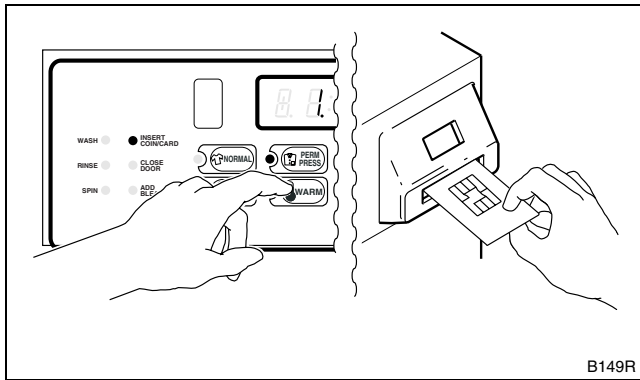

Figure 13
7. **For machines equipped with a cardreader:** Insert card into cardreader and follow the instructions. Refer to *Figure 13*. DO NOT REMOVE CARD UNTIL DISPLAY ON CARDREADER READS "Remove Card".